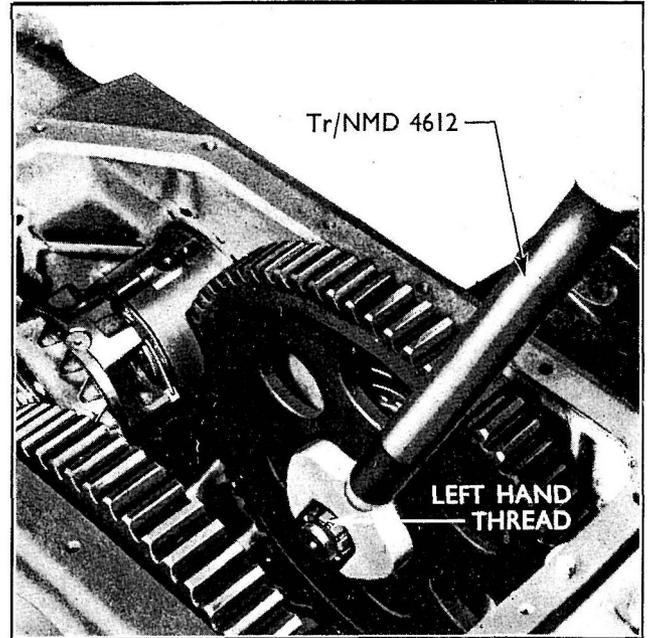

Fig. 170
- 4 Remove the split pin and castellated nut (left-hand thread) retaining the large reduction gear to the axle shaft (tool No. Tr/NMD 4612, see Fig. 170).